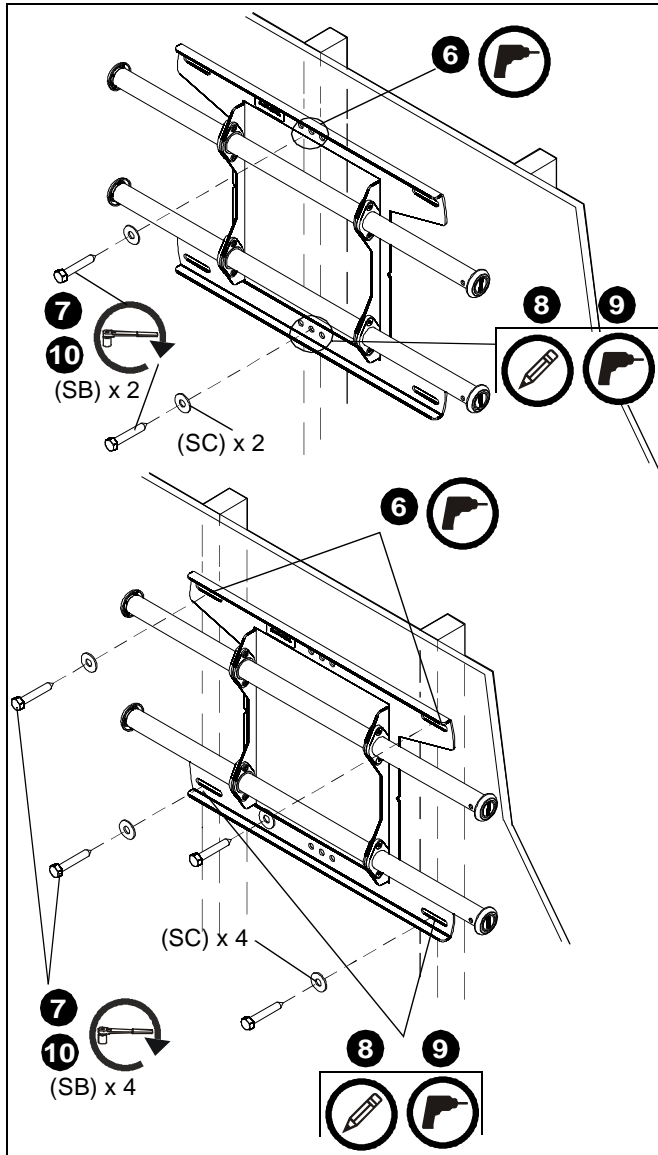

Figure 3
7. Use two 5/16 x 2-1/2" lag bolts (SB) and two 5/16" flat washers (SC) [one lag bolt and washer for single stud installation] to attach top of mount to wall. (See Figure 3)
8. Mark the attachment points for the lower mounting slots, making sure the attachment points are located on the studs. (See Figure 3)
9. Drill 7/32" (5.5mm) pilot holes at markings for lower mounting holes. (See Figure 3)
10. Use two 5/16 x 2-1/2" lag bolts (SB) and two 5/16" flat washers (SC) [one lag bolt and washer for single stud installation] to attach the mount to the wall through the lower mounting holes. (See Figure 3)